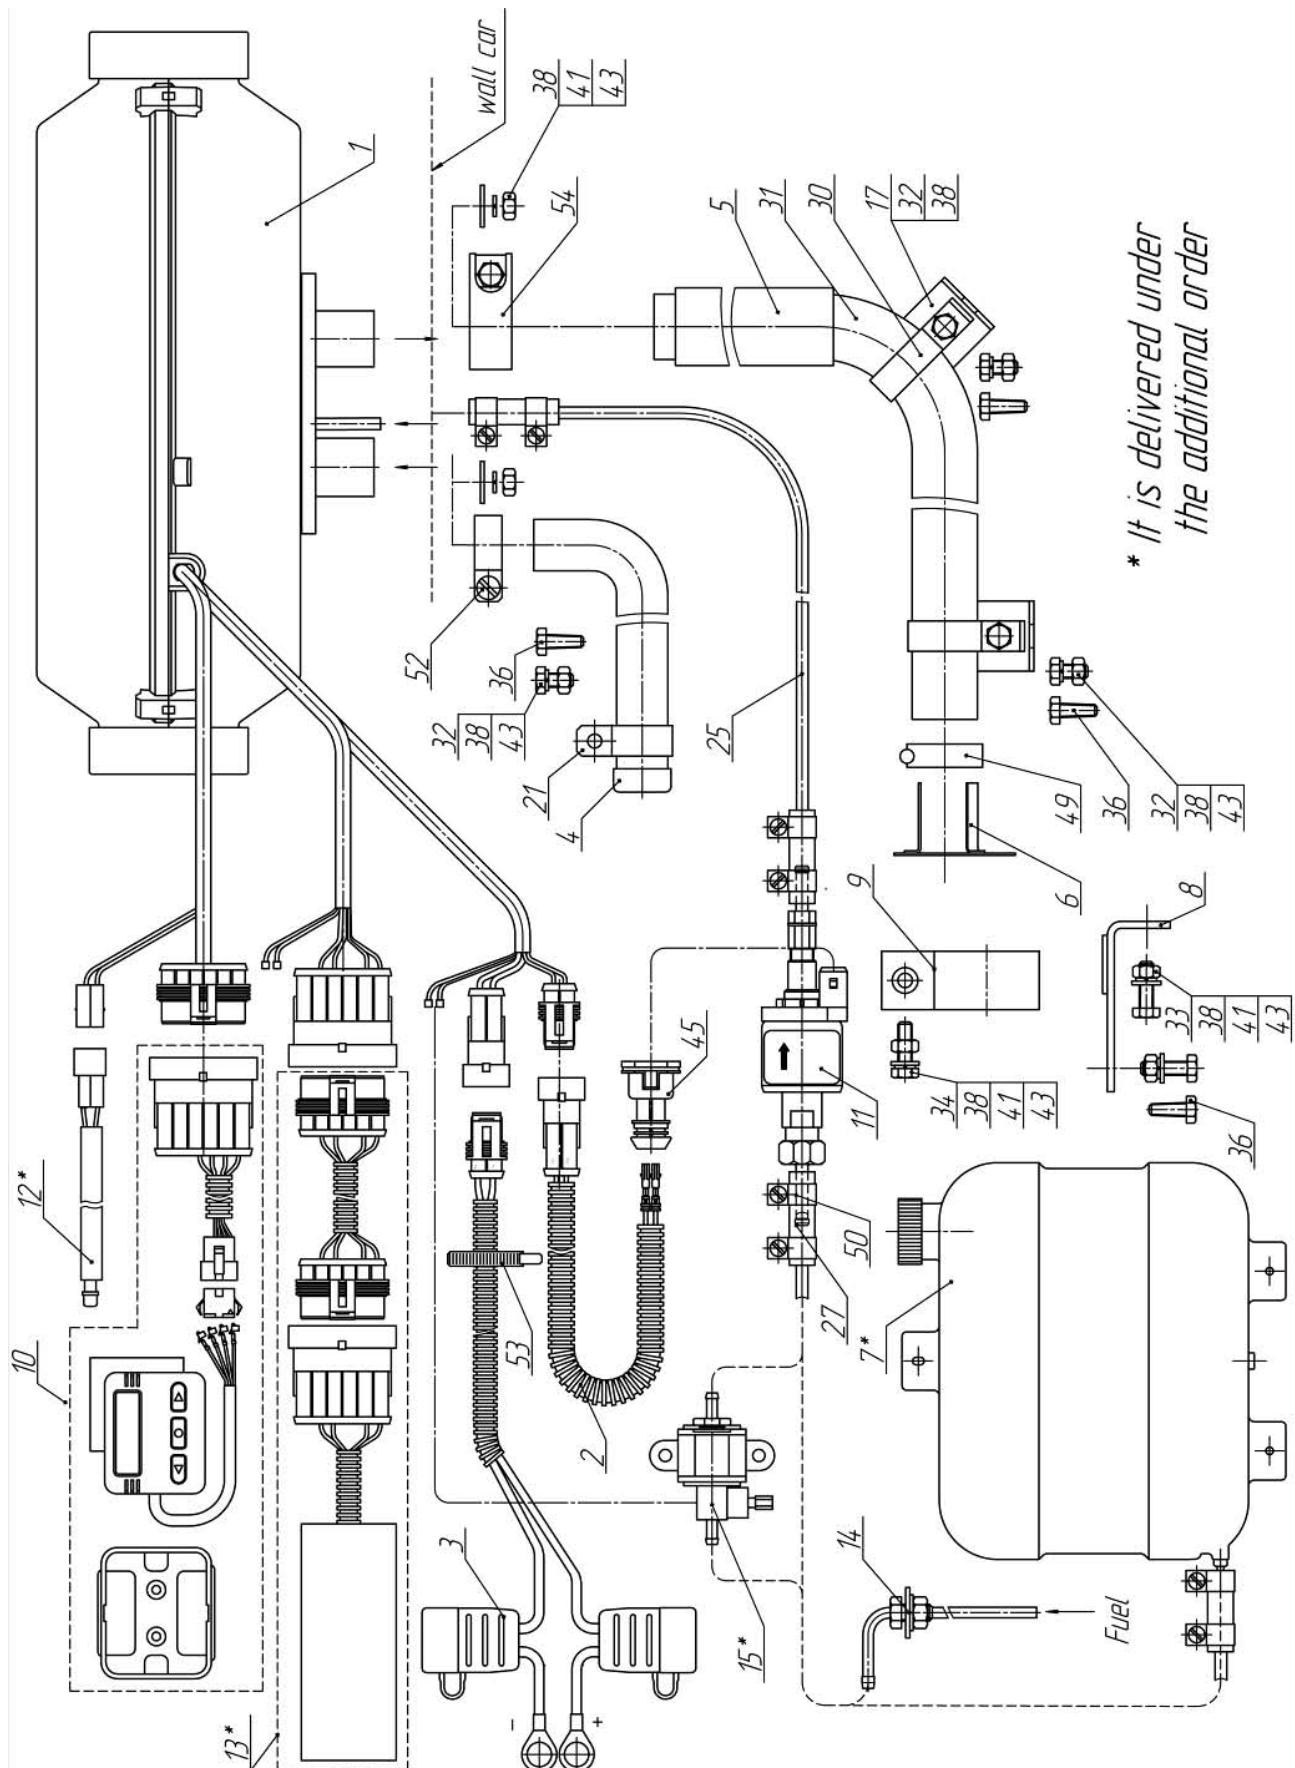

Figure 7.1 – Connection Diagram of Basic Heater Components
Set the modem at any convenient, clean place. Connect the antenna to the modem and bring antenna to the open space (for example, on the windshield). Connect the modem to the heater (according to fig. 4.1 and fig. 7.1) and test it.
See Figure 7.1 for scope of supply and connection diagram of basic heater components. For list of basic heater components, see Table 7.1.
Screen installation to make according to fig. 7.1.
When installing the exhaust pipe, be mindful of its high operating temperature. Cut the exhaust pipe (a flexible corrugated metal hose) to size. Fix the exhaust pipe in place using clamps and position it at a slight angle following the trajectory of gas flow. To protect some parts of the vehicle (electric wiring and other harness) from high temperatures, there must be heat insulation installed.(pos.3, fig.7.1)
Do not allow exhaust gas to affect the performance of vehicle components. Position the exhaust pipe outlet vent so as to prevent snow entering or choking the pipe and to allow incoming water to run off. At the vent of the exhaust pipe the screen is installed, this necessary for stable operation of the heater while working low idle. If this screen is not installed, install it according fig.7.1